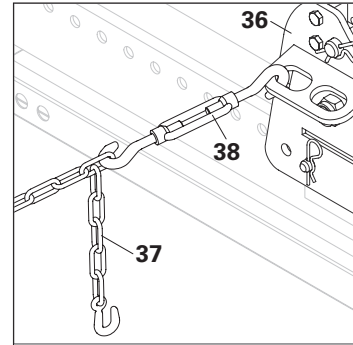

Fig. A10.02d
4. Attach a turnbuckle (**38**) to a hole in the bracket on the bearer. (Fig. A10.02d)
5. Attach a turnbuckle (**38**) to the anchor chain (**37**). (Fig. A10.02d)